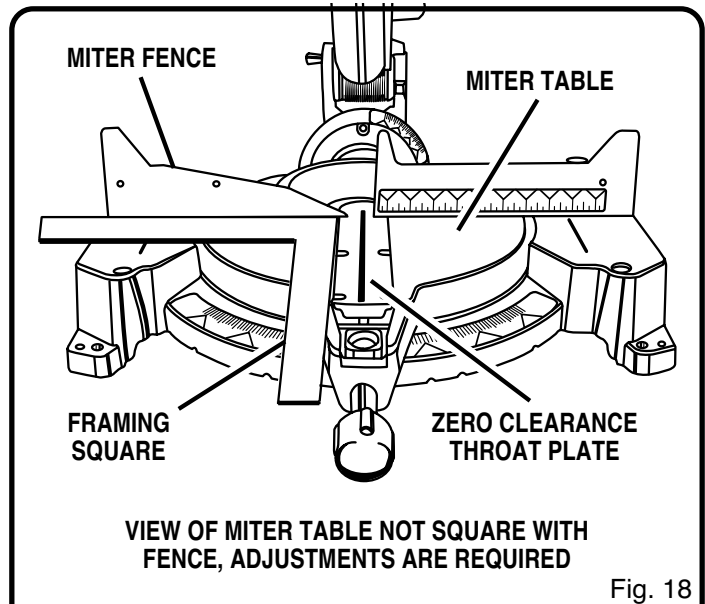

Fig. 18
- If the edge of the framing square and the zero clearance throat plate in the miter table are not parallel as shown in figures 18 and 19, adjustments are needed.